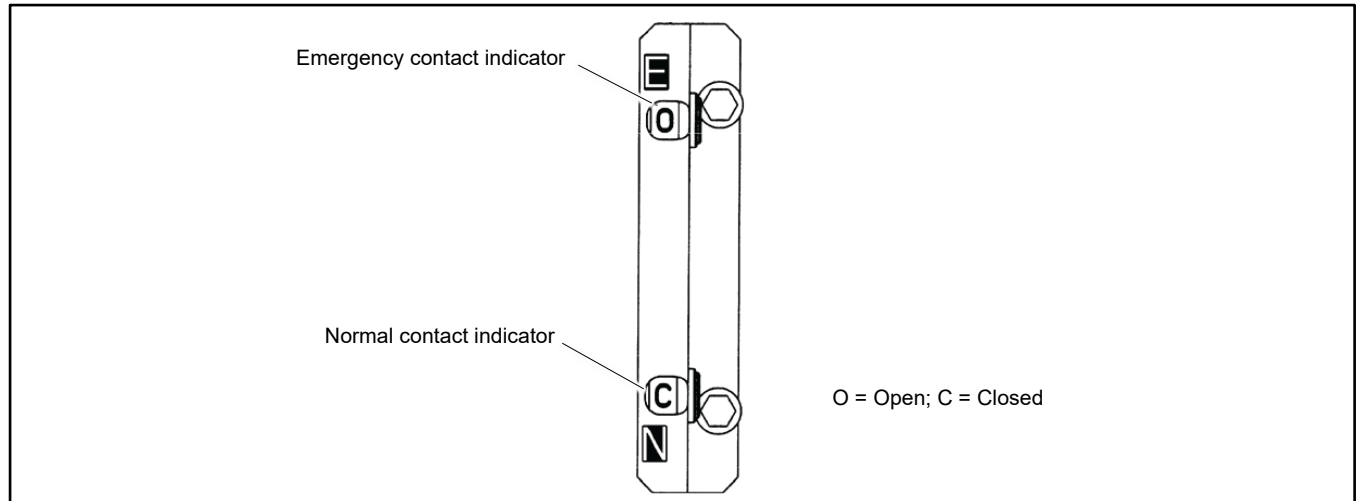

Figure 17 Indicators, Model KCC
Refer to Figure 17 through Figure 19 during the following procedure.
10. Return the Emergency operator to the open position and the Normal operator to the closed position. Observe that the window indicators show the upper shaft **O** (emergency open) and the lower shaft **C** (normal closed). See Figure 17.